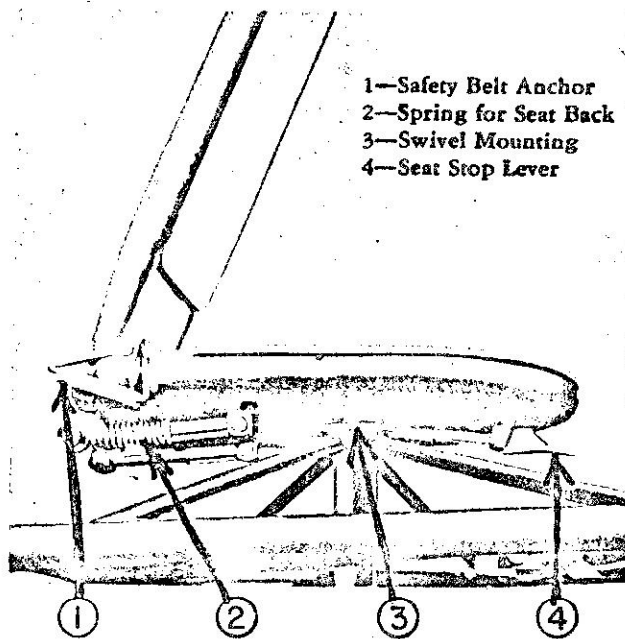

Figure 7—Observers' Seat—Rear Cockpit,
a. **COCKPIT SEATS.**—Both front and rear seats on all L-2 models are adjustable by rotating a crank at the left of the front side of either seat. (See figure 20.) On all L-2A, L-2B, and L-2M models the front seat is the same as in the L-2, but the rear seat has been especially designed to enable the observer to face forward or backward at will. It can be rotated to the right 180 degrees, by releasing a spring catch underneath the front of the seat. The seat locks automatically in either position, requiring the occupant to release the catch whenever additional turning is desired. (See figure 7.)